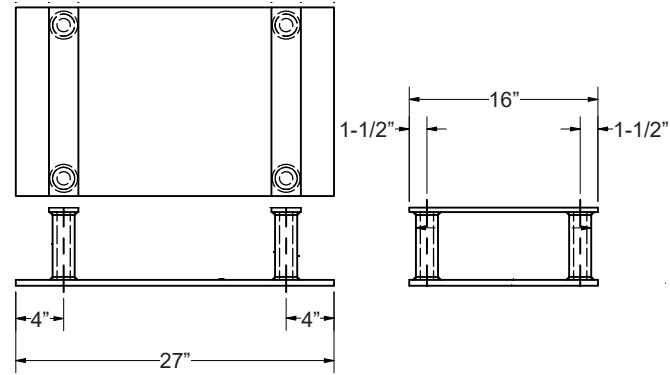

Figure 15
• **Drive Embed Method (Part #7953-0195, Figure 15)**